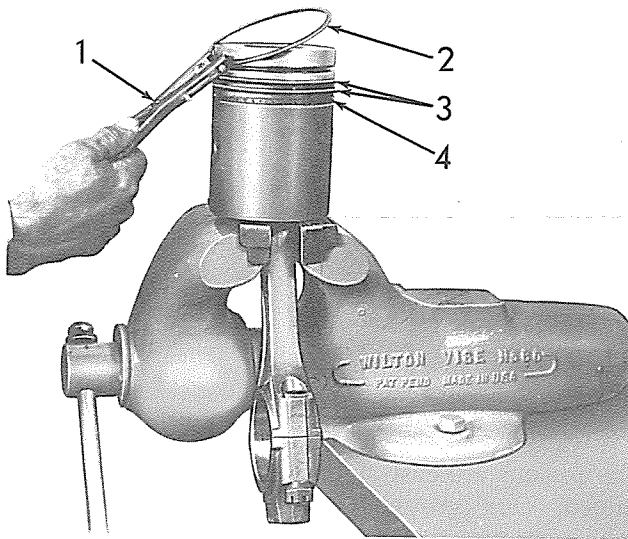

Fig. 1 — Removing Piston Rings from Piston (T-27632)
1. Remove the piston rings using a ring remover and installer tool similar to the one shown in Fig. 1.